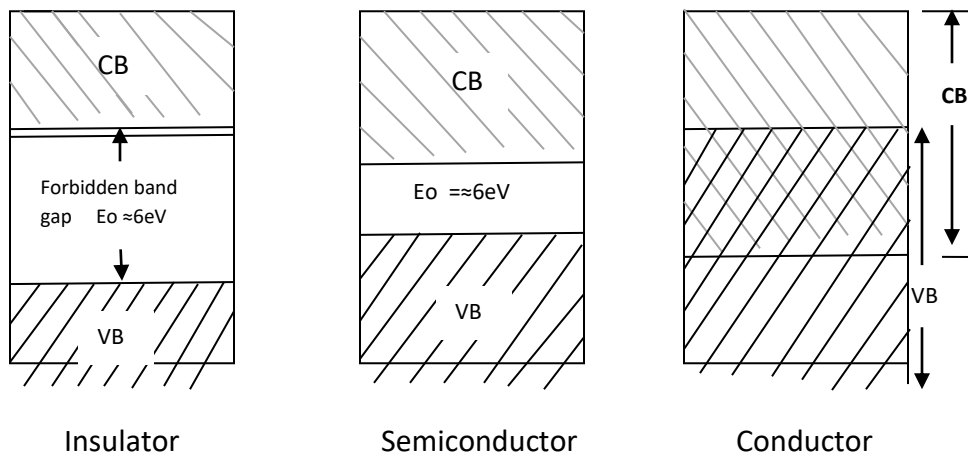

FiG:1.1 Energy band diagrams insulator, semiconductor and conductor
**Insulator:** An insulator is a material that offers a very low level (or negligible) of conductivity when voltage is applied. Eg: Paper, Mica, glass, quartz. Typical resistivity level of an insulator is of the order of  $10^{10}$  to  $10^{12}$   $\Omega$ -cm. The energy band structure of an insulator is shown in the fig.1.1. Band structure of a material defines the band of energy levels that an electron can occupy. Valance band is the range of electron energy where the electron remain bended too the atom and do not contribute to the electric current. Conduction bend is the range of electron energies higher than valance band where electrons are free to accelerate under the influence of external voltage source resulting in the flow of charge.
For an insulator, as shown in the fig.1.1 there is a large forbidden band gap of greater than 5Ev. Because of this large gap there a very few electrons in the CB and hence the conductivity of insulator is poor. Even an increase in temperature or applied electric field is insufficient to transfer electrons from VB to CB.
**Conductors:** A conductor is a material which supports a generous flow of charge when a voltage is applied across its terminals. i.e. it has very high conductivity. Eg: Copper, Aluminum, Silver, Gold. The resistivity of a conductor is in the order of  $10^{-4}$  and  $10^{-6} \Omega\text{-cm}$ . The Valance and conduction bands overlap (fig1.1) and there is no energy gap for the electrons to move from valance band to conduction band. This implies that there are free electrons in CB even at absolute zero temperature (0K). Therefore at room temperature when electric field is applied large current flows through the conductor.